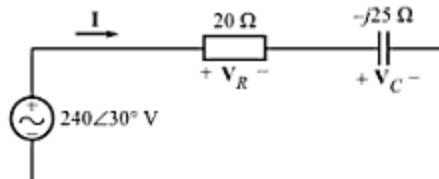

Fig. C-61
- C-92. For the circuit shown in Fig. C-61, find  $\mathbf{I}$ ,  $\mathbf{V}_R$  and  $\mathbf{V}_C$ , and the corresponding sinusoidal quantities if the frequency is  $50 \text{ Hz}$ . Also find the average power delivered by the source.